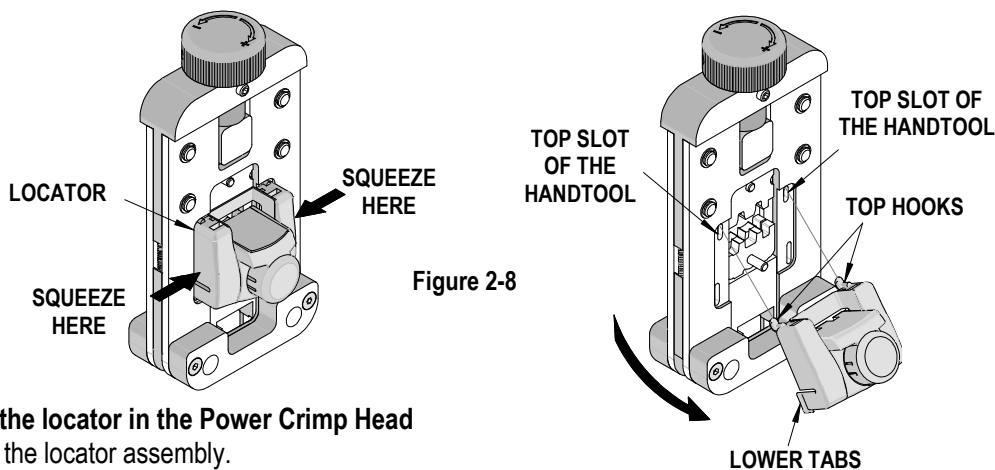

Figure 2-8
2. Squeeze gently on the lower area of the locator assembly, shown in Figure 2-8 with your thumb and index finger. The lower tabs of the locator should disengage from the Power Crimp Head.
3. Lift and pull away from the Power Crimp Head. The top locator hooks should slip out of the top slots easily. See Figure 2-8.